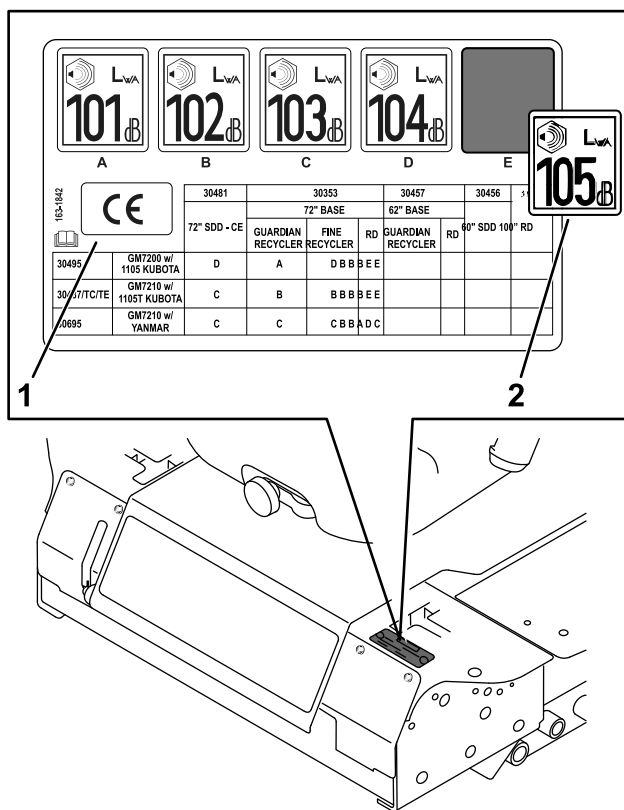

Figure 12
2. Thoroughly clean the regulatory decal and the area near the left motion-control lever where you will apply the sound decal and CE decal (Figure 12).
4. Peel off the backing of the decal sound-power portion, apply it to the existing regulatory decal near the left motion-control lever as shown in Figure 12, and squeegee across the decal using overlapping strokes from the center toward the edges.
5. Peel off the backing of the CE portion of sound decal 163-1842 (Figure 12), place it wherever there is space near the regulatory decal, and squeegee across the decal using overlapping strokes from the center toward the edges.